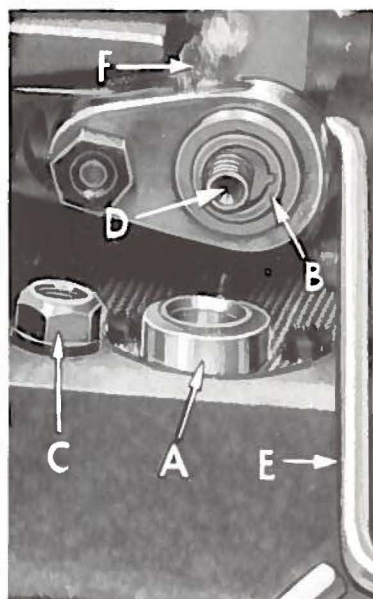

Fig. 12
Length of stitch is determined by the combination of feed eccentrics used. Outer (left) eccentric (A, Fig. 12) actuates main (rear) feed dog, while the inner (right) eccentric (B) actuates the differential (front) feed dog.